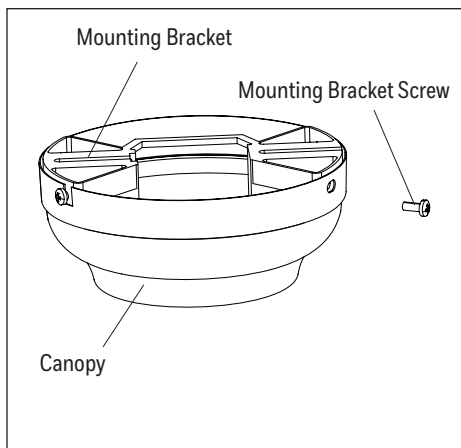

Figure 2.1
1. Loosen all four mounting bracket screws and completely remove the two screws from the round holes in the canopy. Save the screws for later. Remove the canopy from the mounting bracket. **WARNING:** To reduce the risk of fire, electric shock, or personal injury, mount to the outlet box marked “acceptable for fan support” and use the mounting screws and washers provided with the outlet box (Figure 2.1).